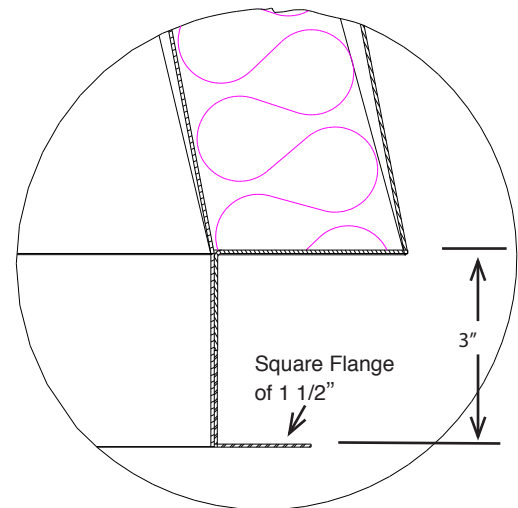

Figure 98b: Option 2 for the STR and ESTR
**Option 2:** A Flange at the square end to be used for a bolted or welded connection in accordance with NFPA 96. See Figure 98b.
- 2- Options for the square end (See **Figure 98a** and **Figure 98b**)